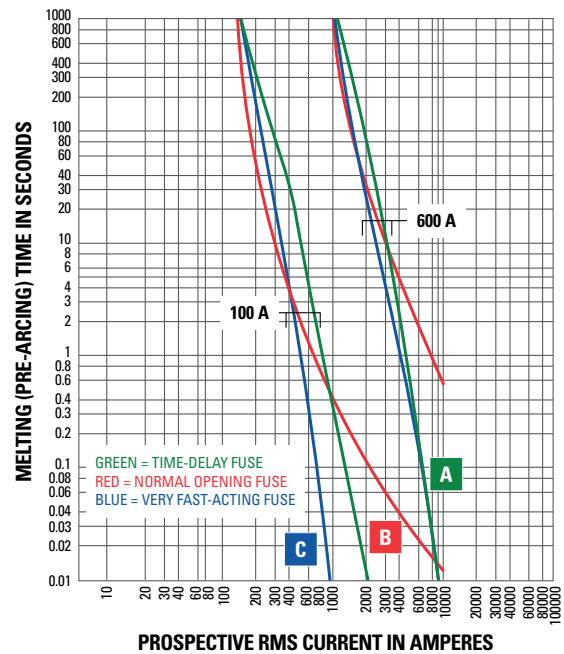

FIGURE 2. Comparison of average melting times for three fuse types.
Time-current curves (see **Figure 2**) show a fuse’s average melting (opening) time at any current. To make the curves more readable, the performance information is presented on a logarithmic plot.
Time-delay fuses, fast-acting fuses, and high-speed semiconductor fuses all respond differently based on the overcurrent. **Figure 2** compares the average melting times for 100-ampere and 600-ampere ratings of three fuse types:
- Littelfuse dual-element time-delay LLSRK series class RK1 fuses (see **Figure 2(A)**)
- Littelfuse normal-opening NLS series class K5 fuses (see **Figure 2(B)**)
- Littelfuse L60S series high-speed fuses (see **Figure 2(C)**)